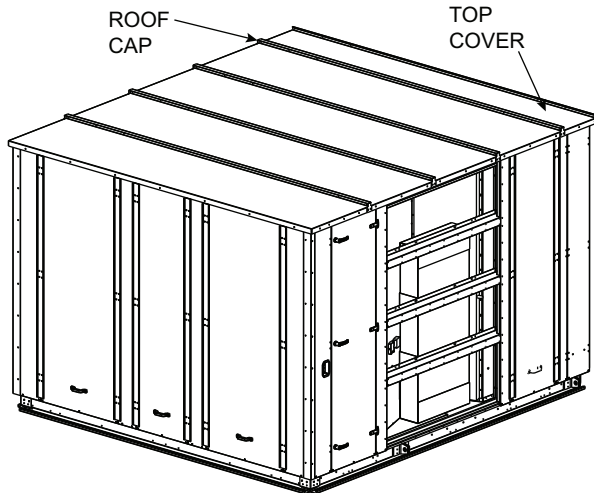

Fig. 52 — Roof Cap and Top Cover Removal
7. Remove the roof cap, top cover and L brackets from the filter end of the return section. Save these parts for later installation. See Fig. 52 and 53.